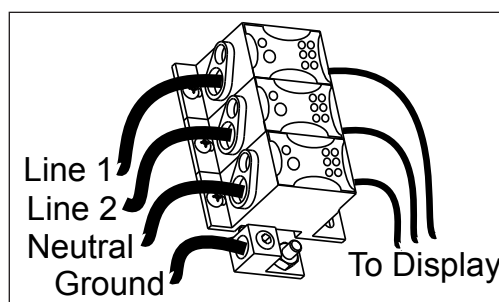

Figure 27: Power Distribution Block
3. Loosen the six screws that secure the power entrance cover and lift the cover off of the power entrance. Refer to **Figure 27**.